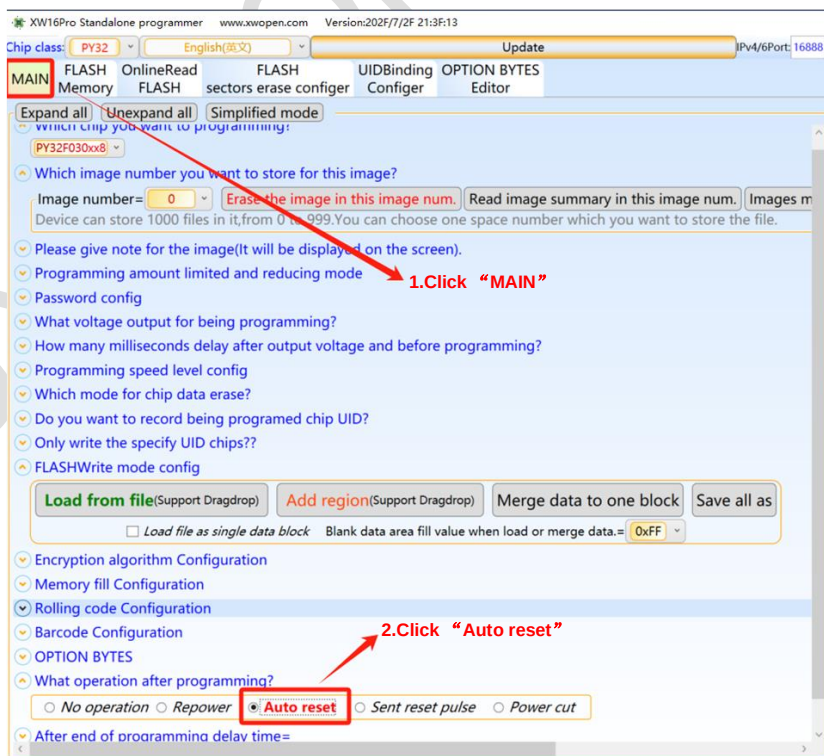
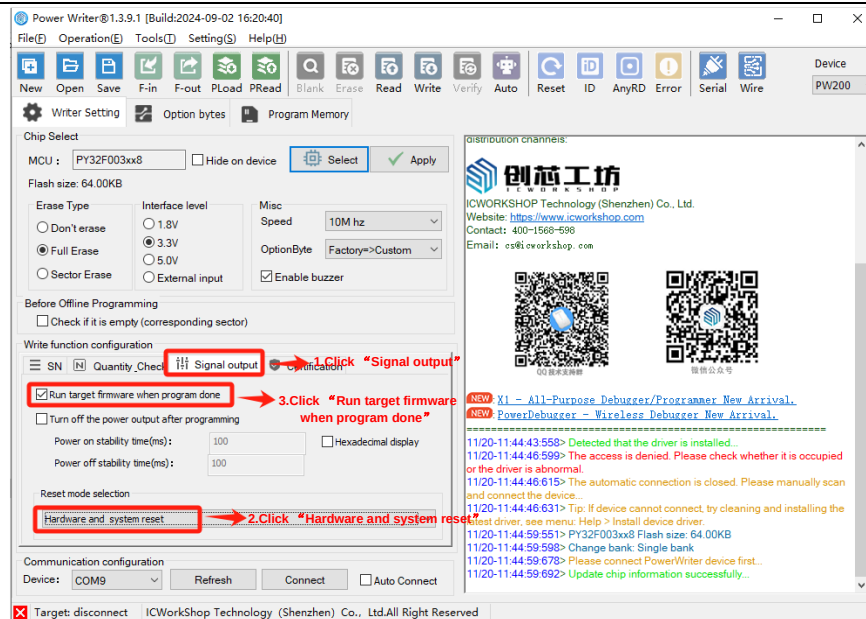

Figure 11-3 XW Operation 'Smart Reset'
Figure 11-4 Power Write Operation Tick 'Reboot Chip After Programming'
- When configuring the Option of the programmer, you need to check the "Smart Reset" function or "Restart the chip after programming" (programmers typically have similar options that need to be selected). The specific steps are shown in Figures 11-3, Figure 11-4.